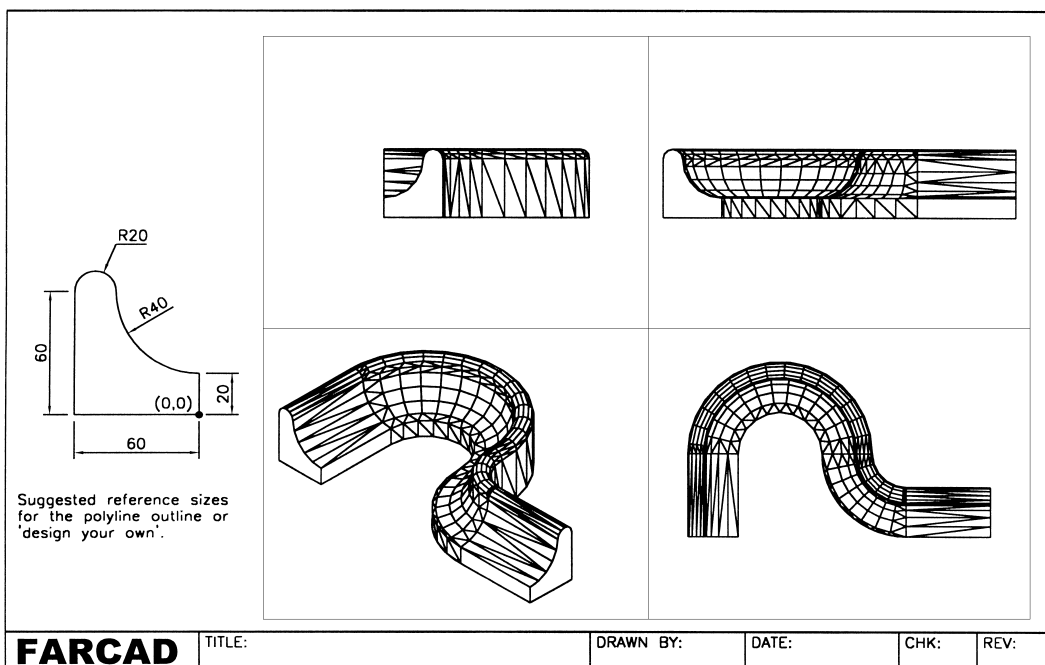

Figure 29.3 Extruded example 3 – a moulding.
- 6 Use the reference sizes in Fig. 29.3 to create the moulding as a single polyline or create your own outline design if required.